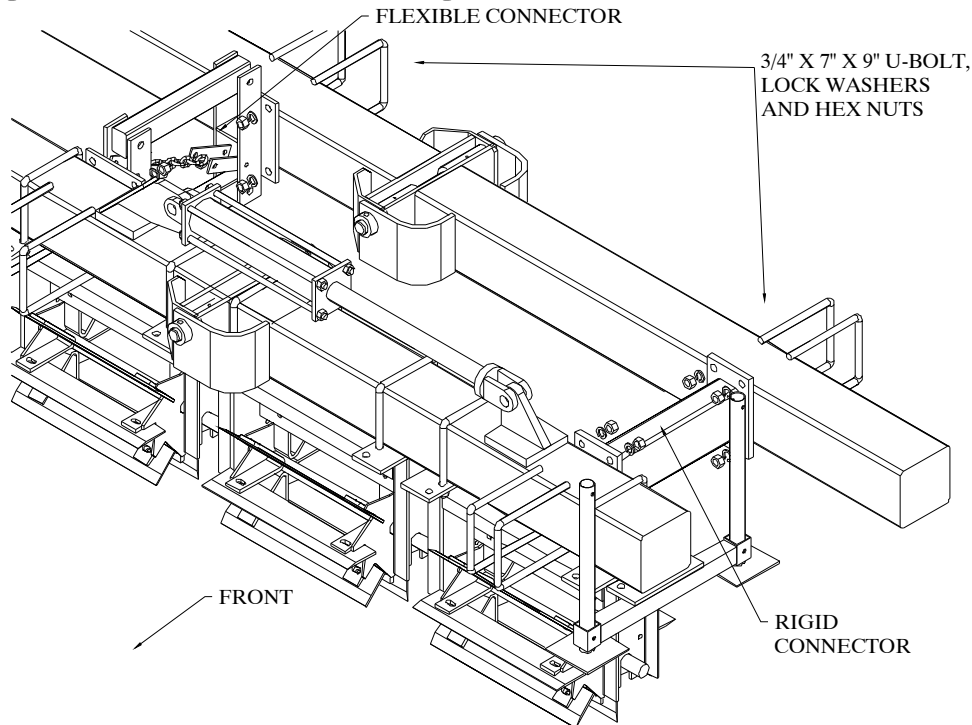

Figure 7
(Refer to Figure 7)
Note: For double row, folding units that have Flexible Connectors the Rear Tool Bar does not include hinge points. Instead, there is a Rear Center Tool Bar and 2 Wing Tool Bars that only consist of the 7" square tubing. Note the orientation of the Flexible Linkage in figure 7. The grease zerks should be pointing upwards and the chain in the linkage should be tight when the unit is lifted off the ground.
1. Position the Front Cross Tube across the tops of the Main Arms with equal distance out both sides. Use the fasteners shown in figure 7 to secure them into place. Do not completely tighten the bolts yet.